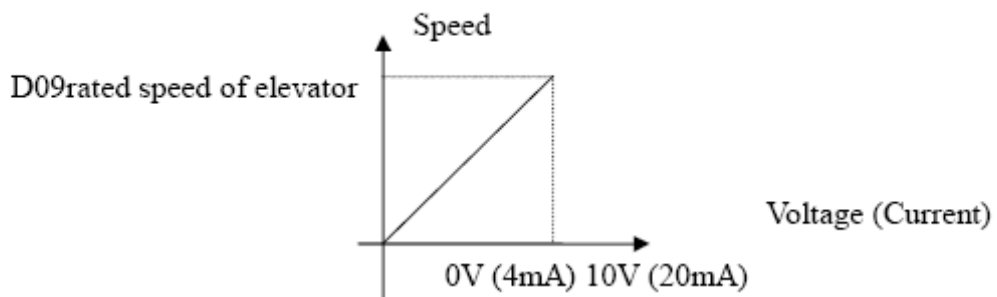

Figure 6.1 Relationship between analog signal and speed
3. The relationship between the analog signal and the speed in analog control mode is shown in Figure 6.1.
The relationship between analog signals and speed is defined by Figure 6.1 when the following parameters take the default setting: